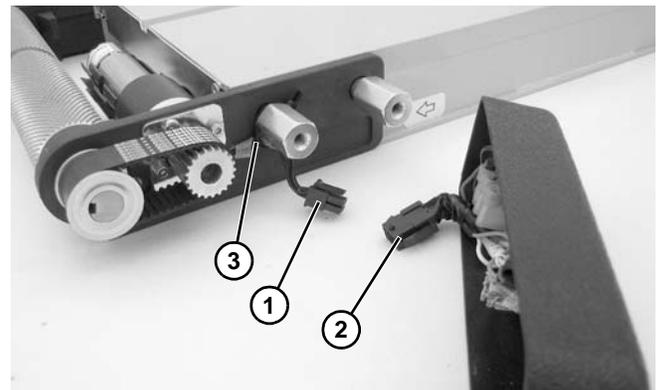

Figure 129
3. Unplug motor connector (**Figure 129, item 1**) from cover wiring connector (**Figure 129, item 2**), and cut cable tie (**Figure 129, item 3**) from conveyor.